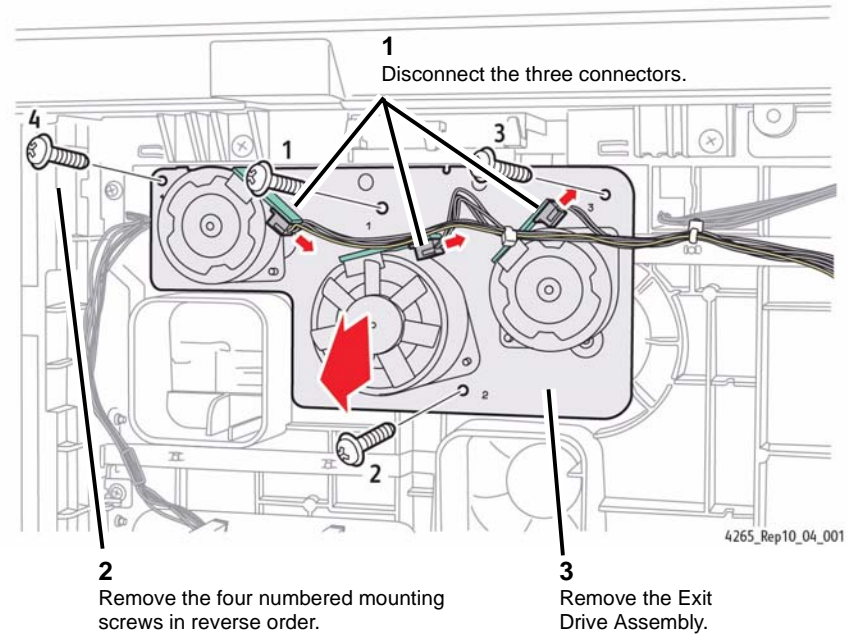

Figure 1 Removing the Exit Drive Assembly
3. Remove the Exit Drive Assembly (Figure 1).